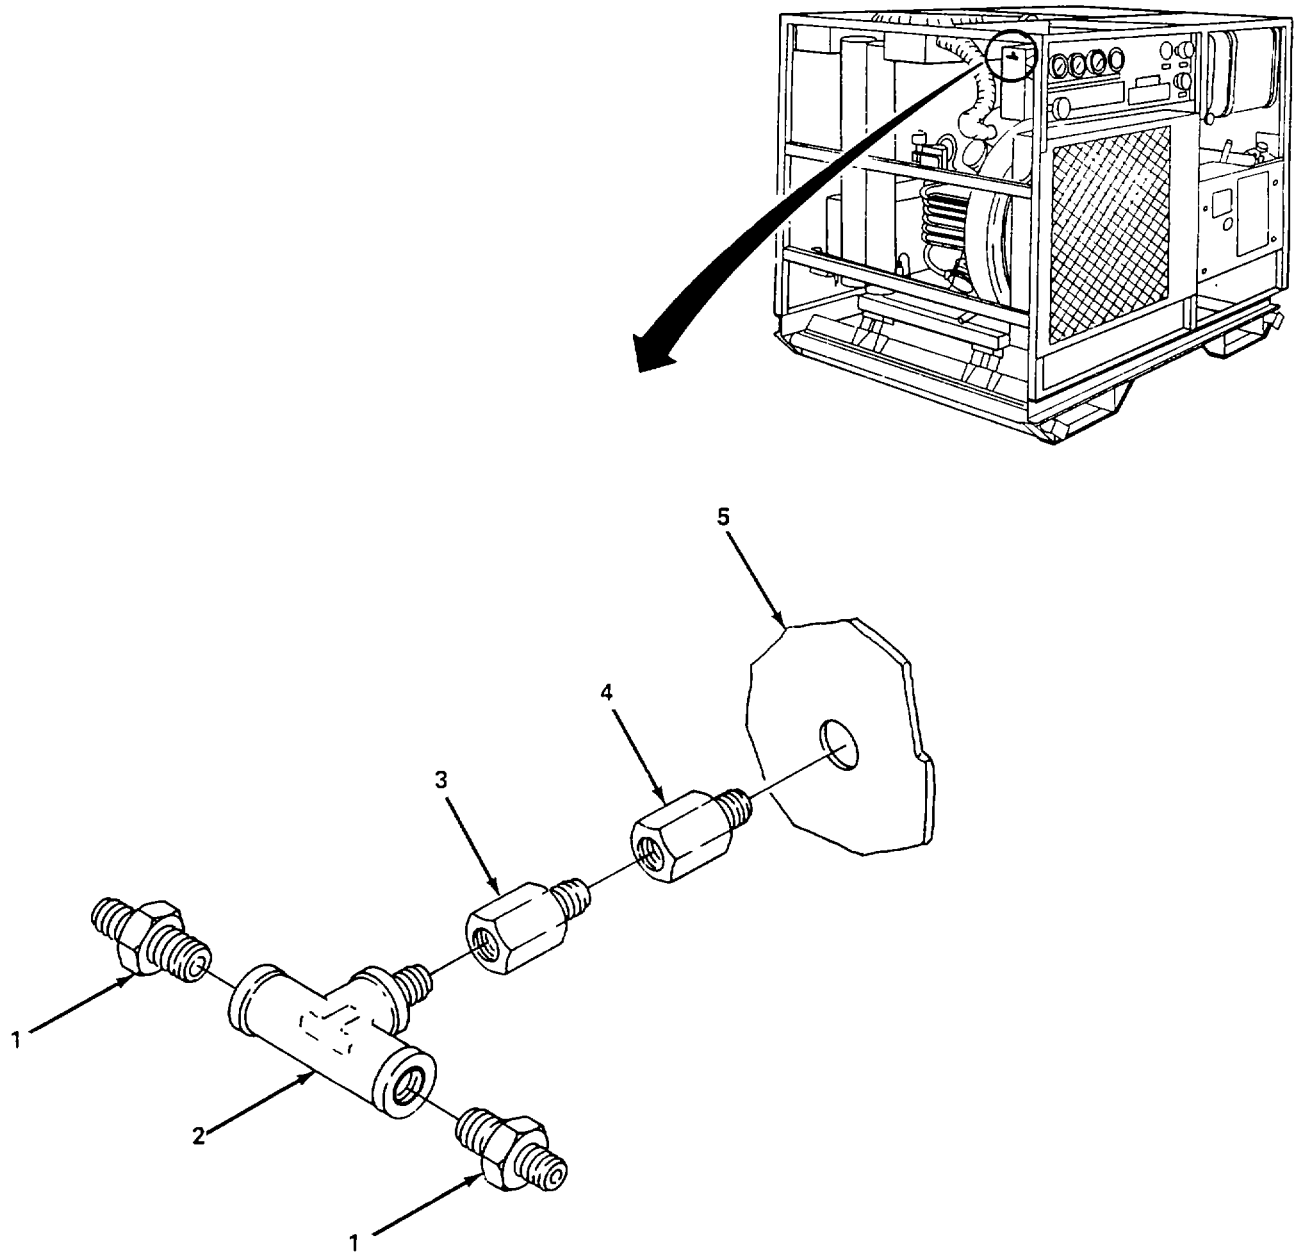

Figure 5-7. Service Outlet, Replace.
- (5) *Service outlet.* (figure 5-7)
- (a) Loosen two fittings (1) from tee (2).
- (b) Remove tee (2) from fitting (3).
- (c) Remove fitting (3) and (4) from control panel (5).
- (d) Install fitting (4) and (3) on control panel (5).
- (e) Install tee (2) on fitting (3).
- (f) Install two fittings (1) on tee (2).